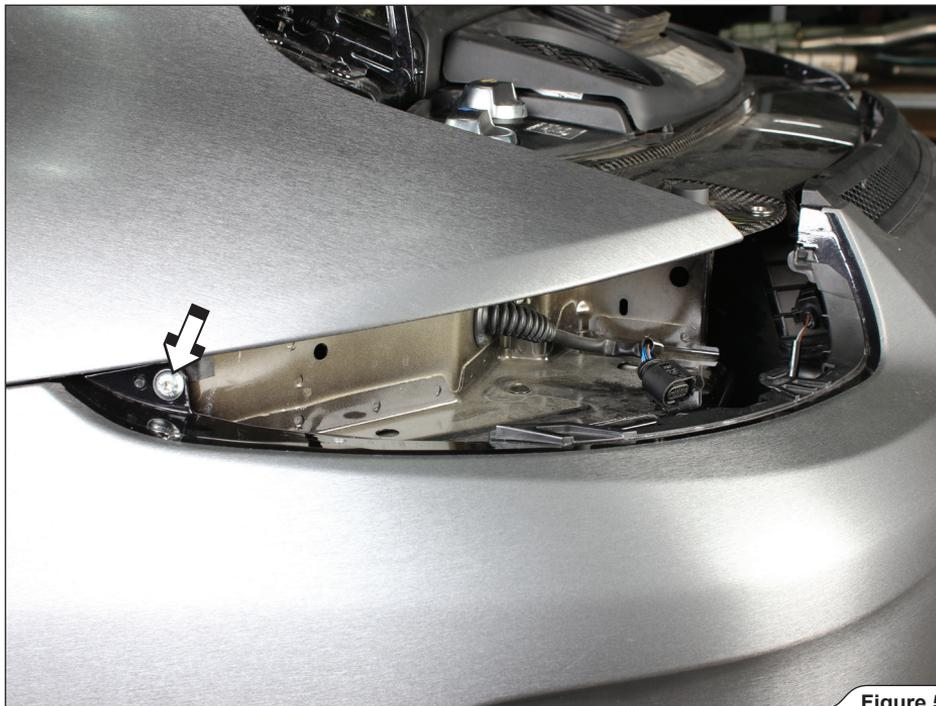

Figure 5
5. Unscrew the marked bolts, on both sides of the vehicle (**Figure 5**).